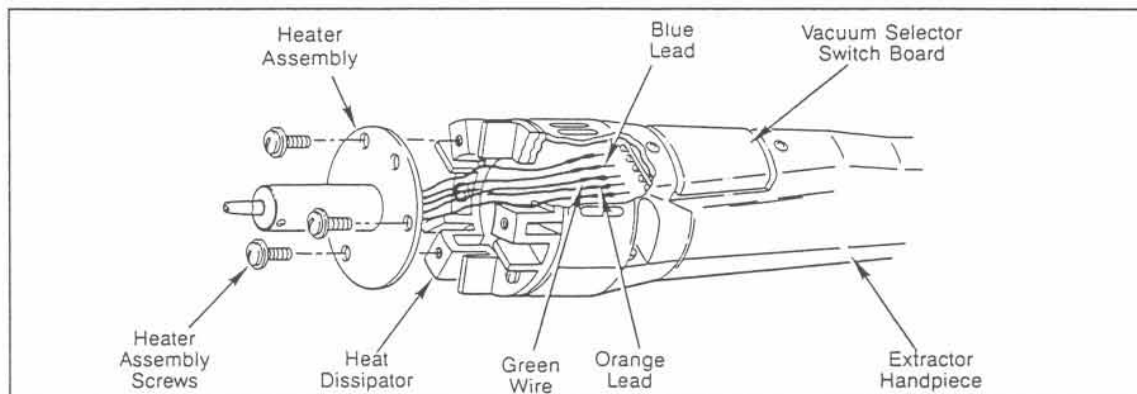

FIGURE 11. EXTRACTOR HANDPIECE HEATER ASSEMBLY REPLACEMENT
- remove three (3) screws on the Heater Assembly flange (refer to Figure 11), let Heater Assembly hang loose. (NOTE: *DO NOT* pull Heater Assembly from Handpiece at this time).